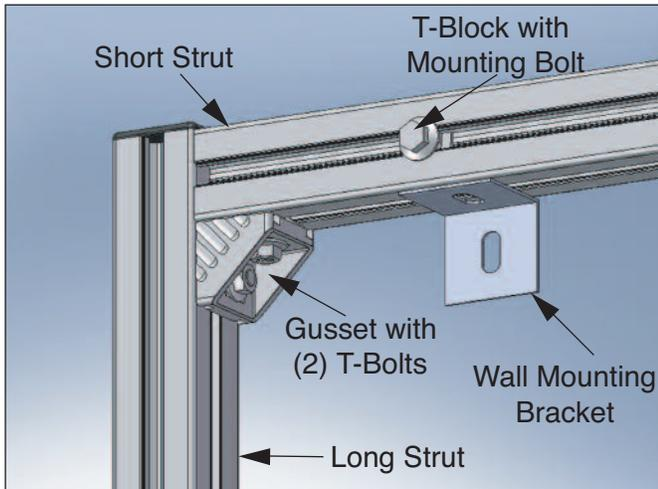

Fig. 4: Frame Assembly
6. Position the Short Strut with the T-Blocks next to the two Long Struts on a flat surface. The top side of the Short Strut should be flush with the end of each Long Strut as shown in Figure 4. Install a T-Bolt and nut through each Gusset and into the channel of the Long Strut. Tightening the nut will cause the bolt to turn clockwise 90°. Tighten the nut and confirm that the T-Bolt rotated 90° and is fully engaging the channel of the strut.